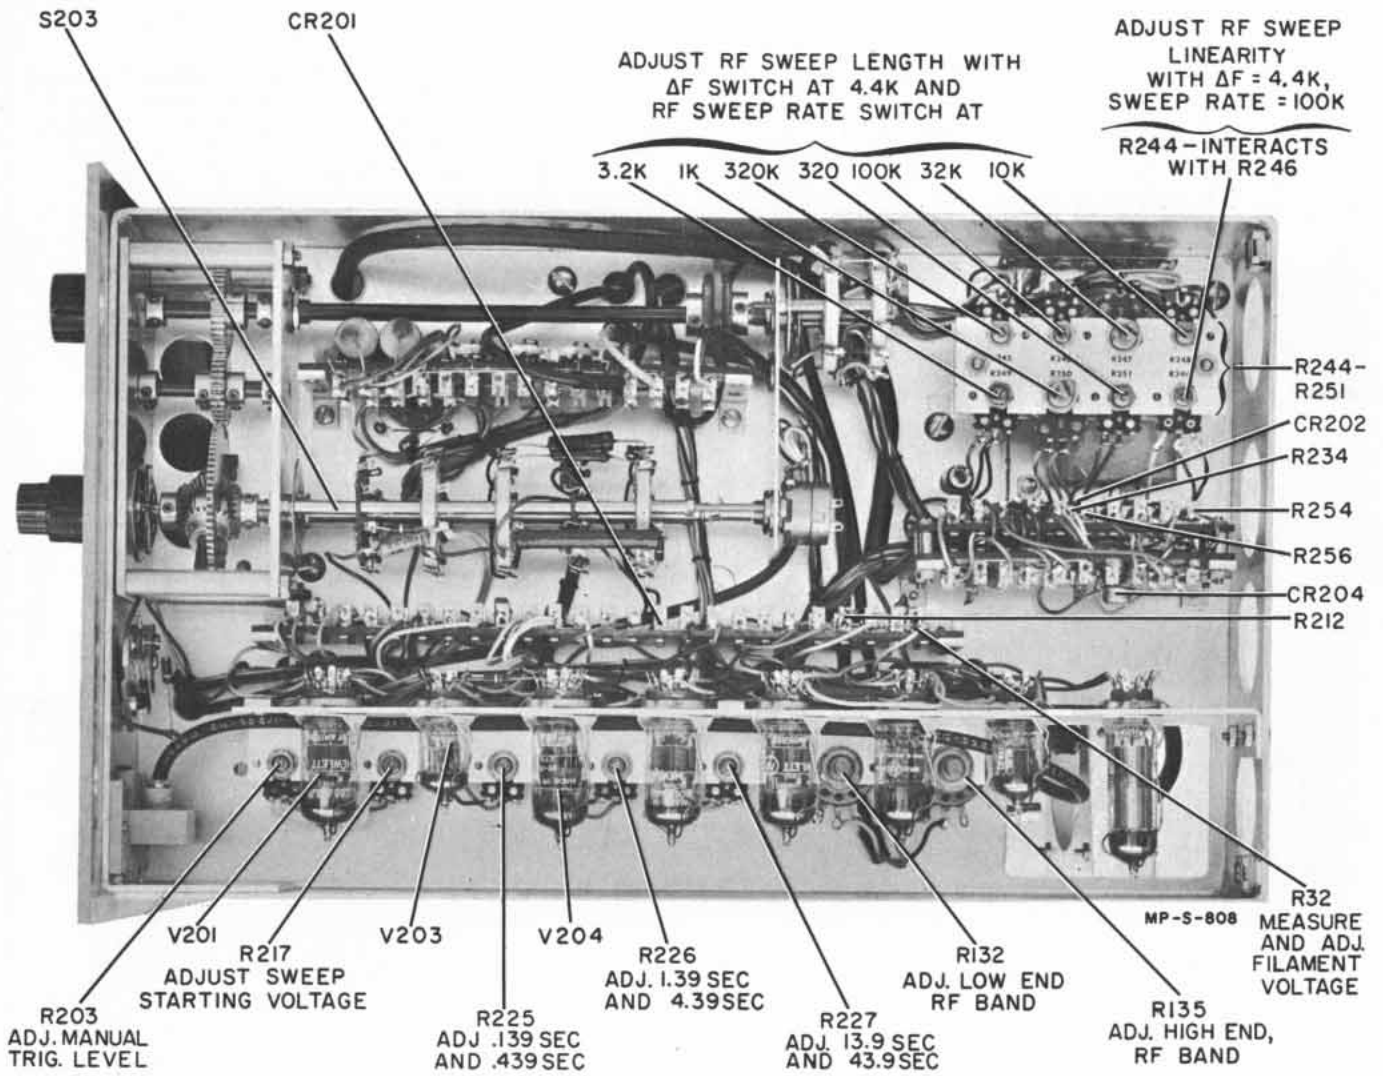

Figure 4-15. Model 686C Right Side View
The trigger bias should be adjusted with R203 (see figure 4-15). The equipment should be connected as in figure 4-2. Set the Δ FREQUENCY = 4.4K and SWEEP RATE to 3.2 kmc/sec. Adjust one wavemeter
- 1) Check filament voltage for V103, V105, V107, V109, V202, V207, V208 and V302. Place an ac vtm across R32 (see right side view, figure 4-15). No 6.3 volts ac, replace R35.